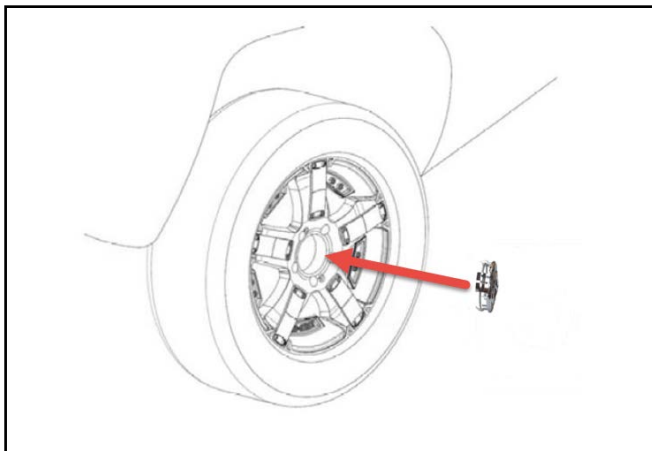

Figure 10
- a. Install Center Cap. Push cap into center hole. See Figure 10.